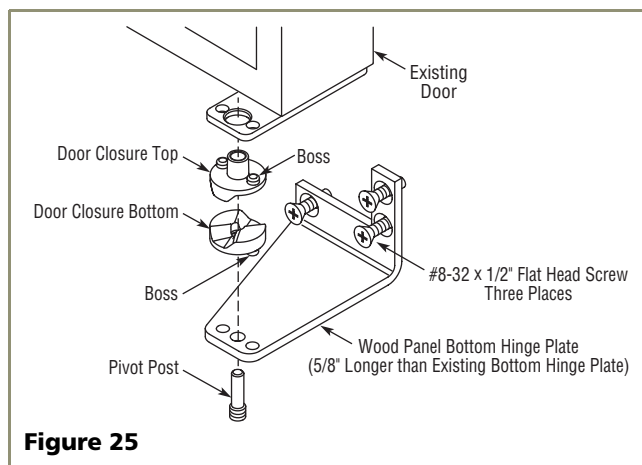

Figure 25
- Replace the door closure assembly onto the bottom pivot post (see **Figure 25**). Be sure that bosses on closers align with holes in hinge and hinge plate.